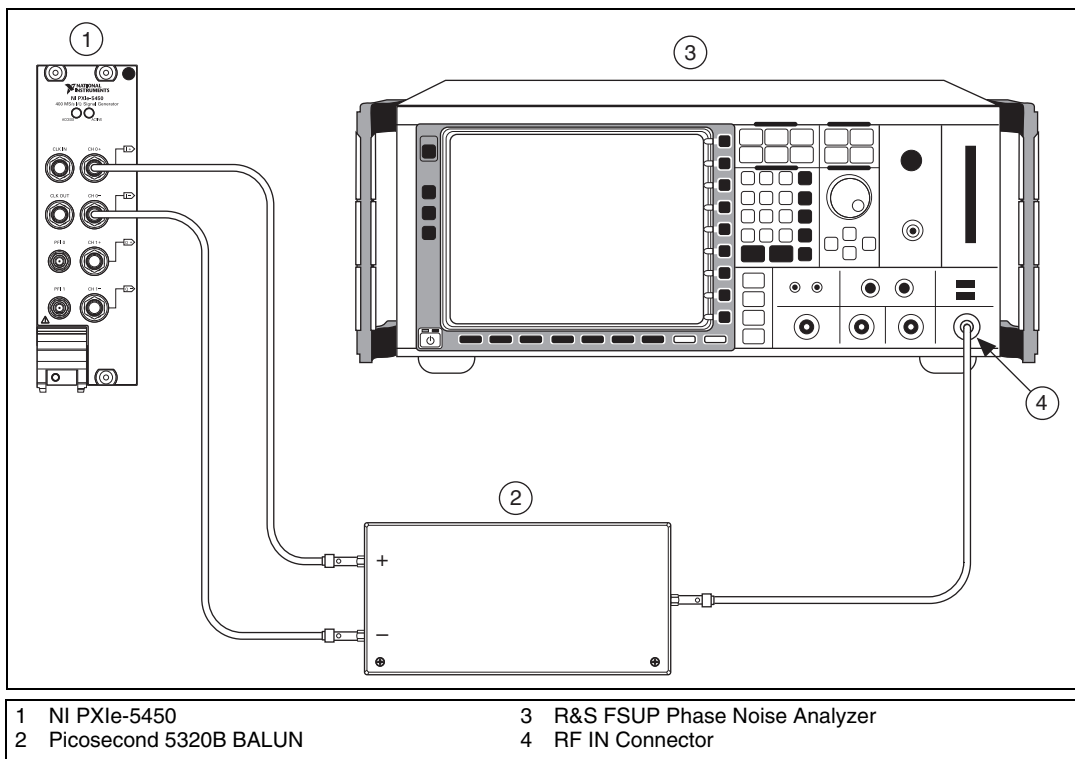

Figure 13. NI 5450 Connection to Phase Noise Analyzer using a BALUN (CH 0)
1. Connect the devices as shown in Figure 13.